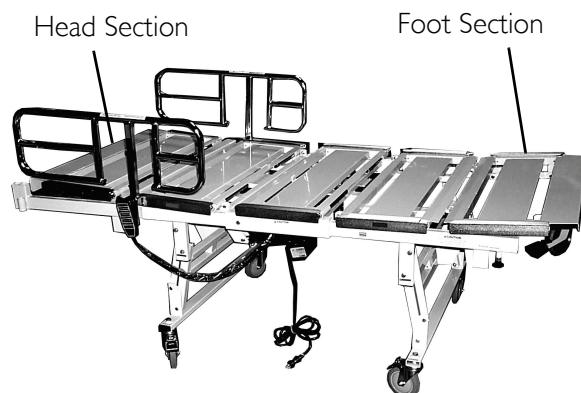

FIGURE 4.2 Adjusting the Bed
NOTE: For this procedure, refer to FIGURE 4.2.
1. Pull down on the release knob located under the head section of the bed. See Detail "A" of FIGURE 4.2.
4. If necessary, repeat STEPS 1 to 3 for the foot section. See Detail "B" of FIGURE 4.2.
4. Repeat STEPS 1 to 3 for the other four side sections on that side. See Detail "B" of FIGURE 4.2.